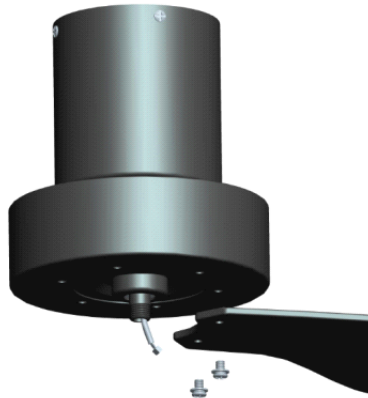

Fig 7.1
7.1 Remove the blade screws from the motor head, then align two blade holes with the screw holes of the motor head and fasten blades with the blade screws as shown in Fig 7.1.